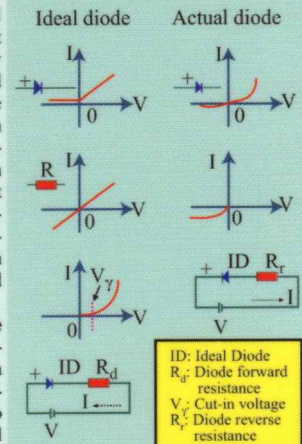

Figure 6
• A **diode** is a two terminal, unilateral device. Ideally, it conducts electricity in one direction and does not allow the current to flow in the opposite direction. Compared in Fig.6 are the current I - voltage V characteristics of a bilateral element (such as a resistor R) and of an ideal diode.